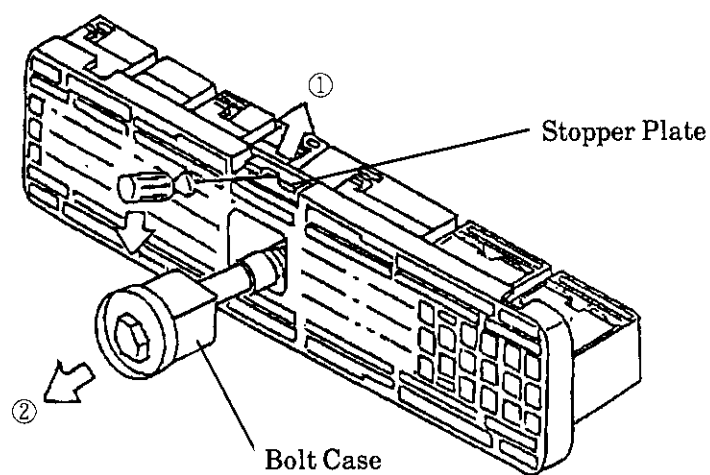

Fig. 15
- (2) On the next, press up the stopper plate to the original position as shown in Fig. 15, with, the use if watchmaker's screw driver of 1.8 mm in width, and pull off the bolt case from the mounted position in the connector.